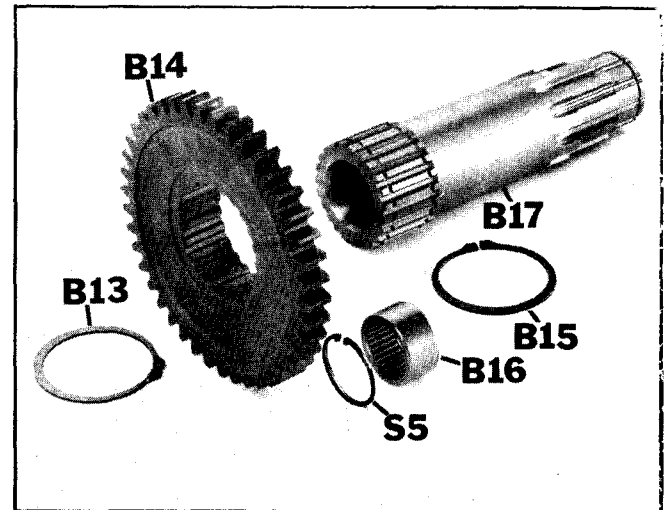

Figure 21
2. Remove snap ring (S-5) holding caged needle bearing (Figure 21).